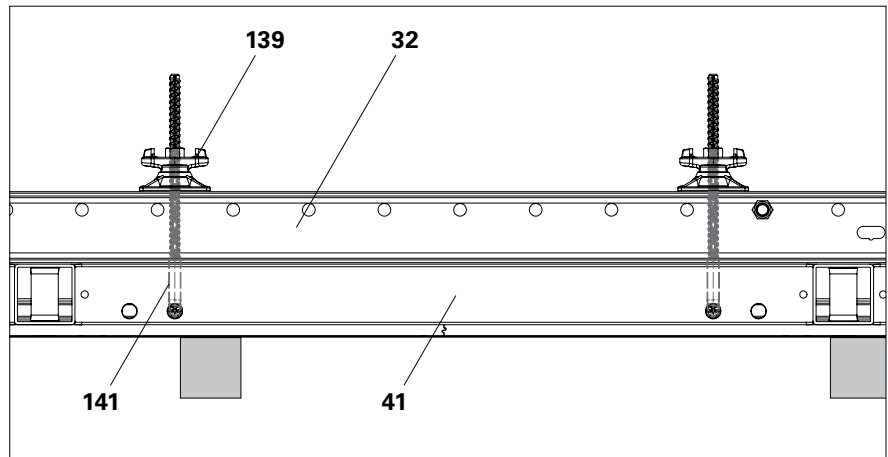

Fig. C1.01
1. Clamp the waling (**32**) using the Hook Tie DW 15 (**141**) and Wingnut Pivot Plate DW 15 (**139**) to the specified position of the TRIO panel (**41**). (Fig. C1.01)